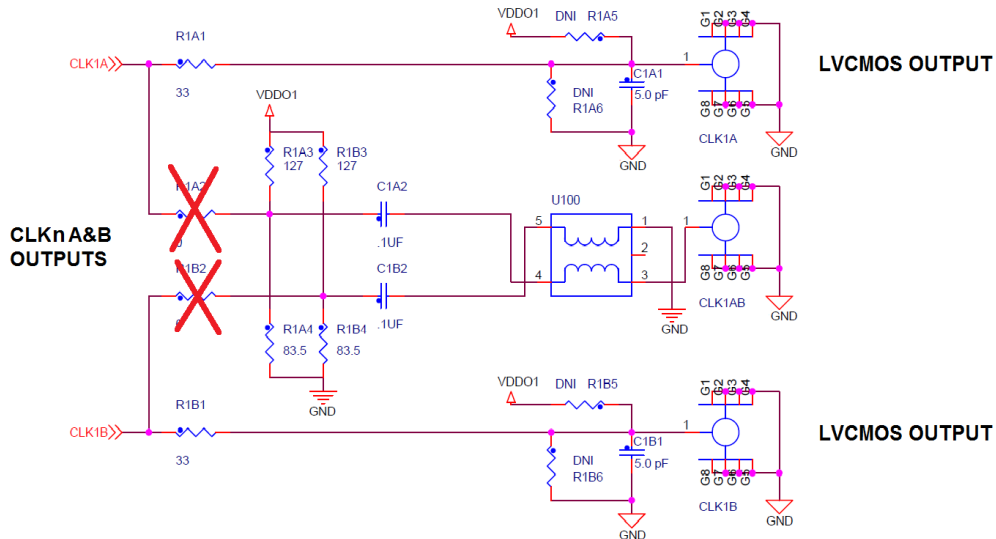

Figure 13. LVC MOS Output Configuration
**NOTES:** In pin-strap mode, the NB3H5150 CLK1 defaults to LVC MOS only, and CLK2 defaults to LVPECL only. Therefore, on the EVB, remove the appropriate resistors such that CLK1A & CLK1B defaults to LVC MOS output configuration, and the CLK1AB SMA connector is open (Figure 13).